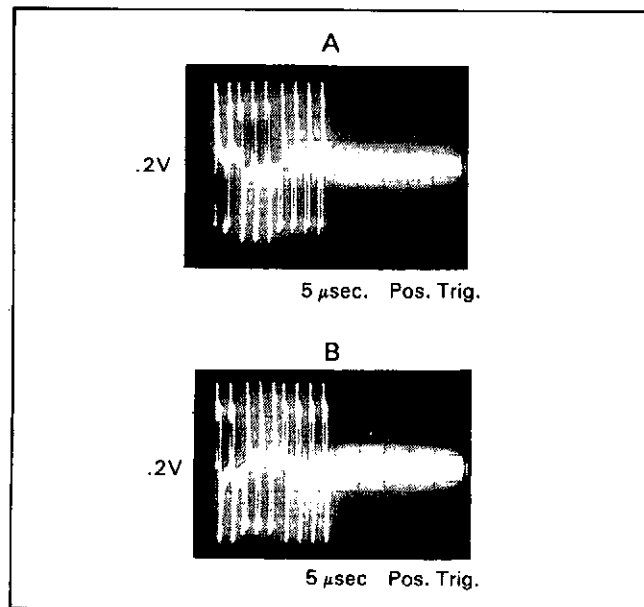

Figure 8-A-8. Output of U19.
- b. Check for the waveforms shown in Figure 8-A-9A, B, and C at U19 pin 1, 2, and 10, respectively. If the waveforms are good, replace U19.